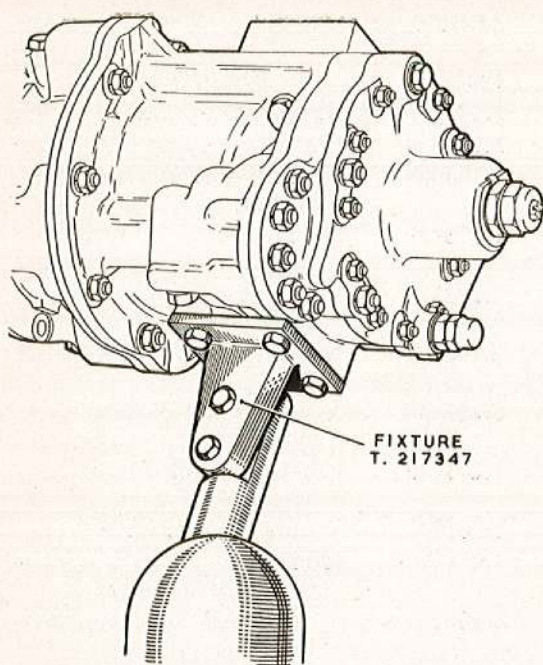

Fig. 1. Dismantling and assembling fixture
8. Mount the pump on the stripping fixture T.217347 (*fig. 1*) and, using the extractor T.217346, remove the circlip and withdraw the seal spacer and sealing ring, outer carbon-faced seal, spring and shim washer.